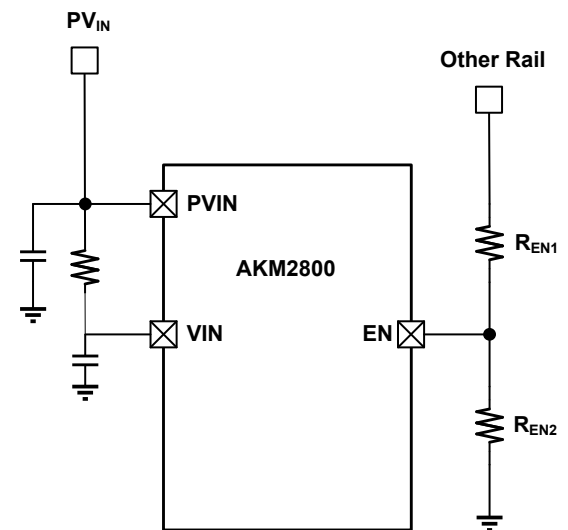

Figure 31. EN pin used to monitor other rails for sequencing purposes.
- The EN pin can also be used to implement a precise input voltage UVLO. The input of the EN pin is derived from the other rail voltage by a set of resistor dividers, REN1 and REN2 (Figure 31).
- The EN can be used to monitor other rails for a specific power sequencing scheme (Figure 31).